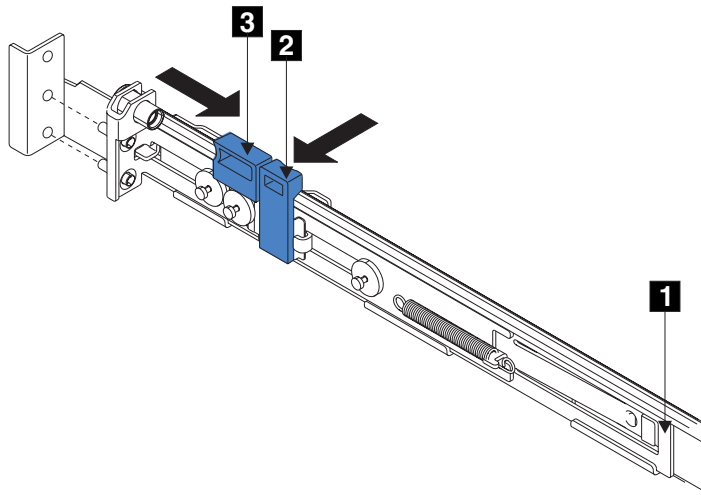

Figure 122. Opening the back latch-lock carrier assembly
5. Push the back rail bracket **1** (Figure 122 on page 454) toward the front of the rail until it stops. The rail is now at its shortest adjustment.